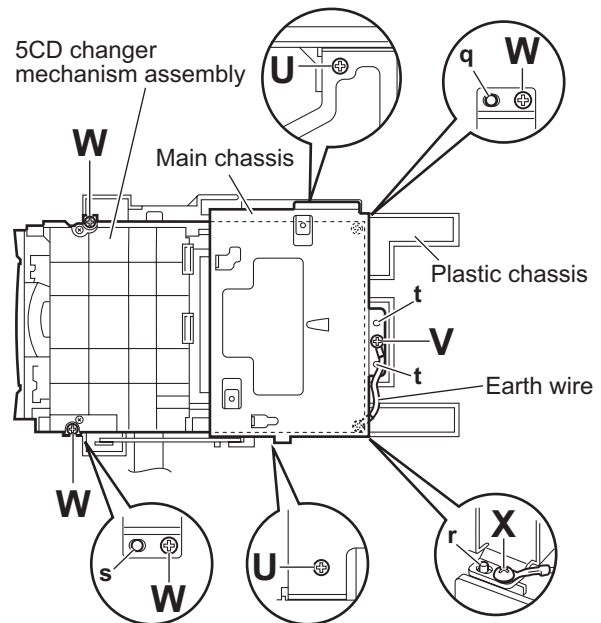

Fig.23
- (3) From the both and top sides of the 5CD changer mechanism assembly, remove the two screws **U** and screw **V** attaching the main chassis. (See Fig.23.)
- (4) From the top side of the 5CD changer mechanism assembly, remove the three screws **W** and screw **X** attaching the 5CD changer mechanism assembly on the plastic chassis. (See Fig.23.)
- When reassembling, align the projections (q,r,s) of the plastic chassis to the holes of the 5CD changer mechanism assembly before attaching the screws **W** and **X**. (See Fig.23.)
- Align the projections t of the plastic chassis to the holes of the main chassis before attaching the screw **V**. (See Fig.23.)